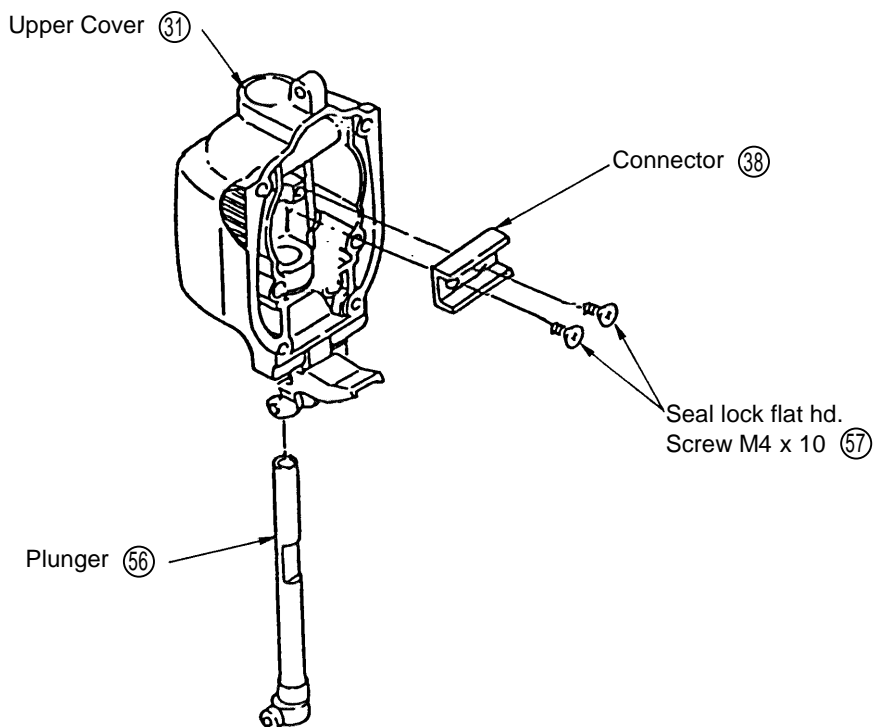

Fig. 11
- (3) Disassembly of the Plunger ⑤⑥ from the Upper Cover ③① :
Remove the two M4 x 10 Seal Lock Flat Hd. Screws ⑤⑦ which fix the Connector ③⑧, and take out the Connector. Then pull the Plunger ⑤⑥ toward the Base ⑥⑩ to remove it from the Upper Cover ③①. (See Fig. 11)